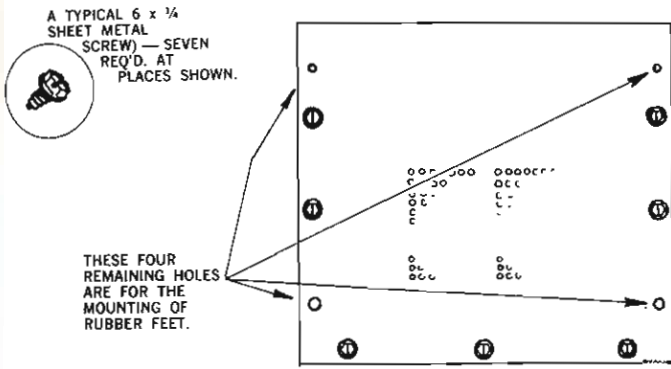

FIGURE 18
- A4-4. Assemble the bottom cover with the #6 sheet metal screws as in fig. 18. Be careful that this bottom cover does not touch bare wires inside.